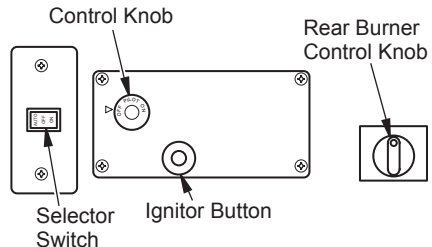

Figure 23 - Control Knobs and Ignitor Button Locations (Shown as Supplied, No Remote Control Operation)
5. Wait five (5) minutes to clear out any gas. Then smell for gas, including near the floor. If you smell gas, STOP! Follow "B" in the safety information on page 19. If you don't smell gas, go to the next step.
6. Press in and turn control knob counterclockwise  to the PILOT position. Press in control knob for five (5) seconds (see Figure 23).